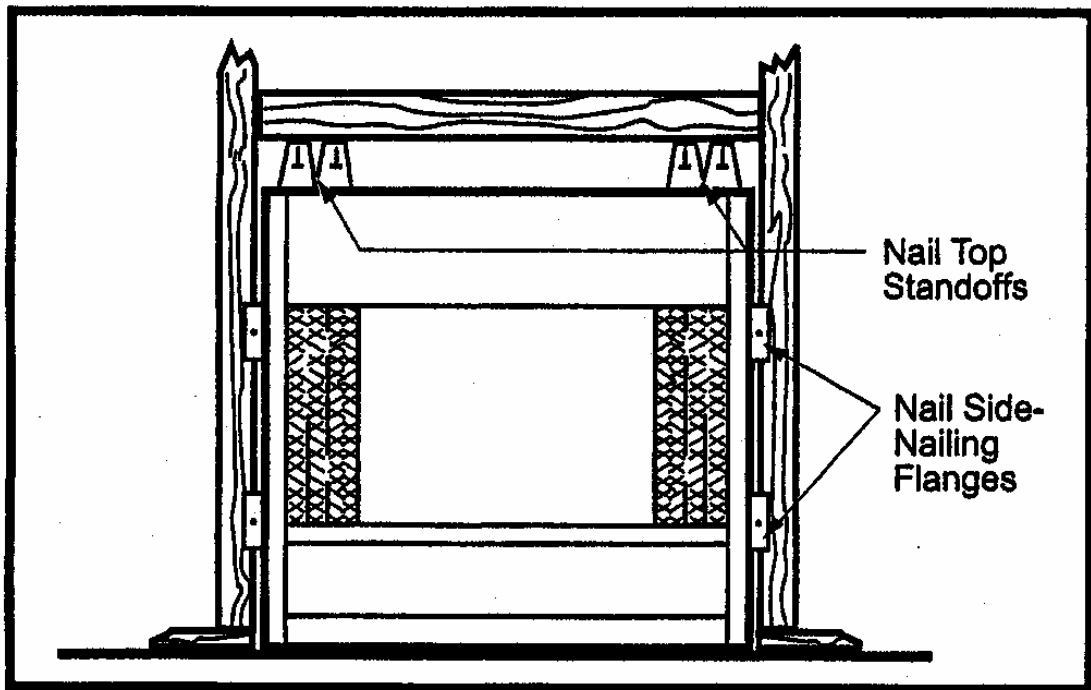

Figure 3
2. Four (4) nailing flanges are supplied with the fireplace (located on the fireplace hearth). To level the box and secure it firmly in place, remove the nailing flanges from the hearth and install at the sides of the fireplace as shown in Figure 3